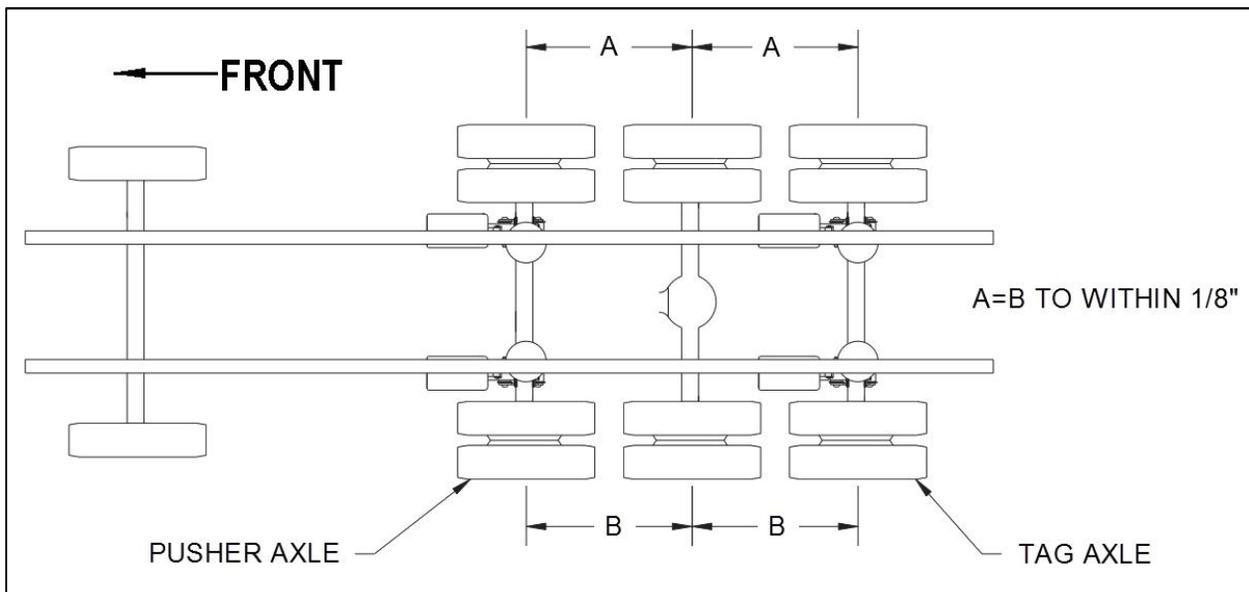

Figure 15
11. Adjust the fore/aft position of the passenger side arm beam pivot so that the measurement from the drive axle spindle axis to the auxiliary axle spindle axis is equal on both sides of the vehicle plus or minus (+/-) 0.125" (1/8") (See Figure 15).
10. Using two (2) ½" break-over bars or ratchets, rotate the two (2) passenger side eccentric collars simultaneously to adjust the fore/aft position of the passenger side arm beam pivot so that the measurement from the drive axle spindle axis to the auxiliary axle spindle axis is equal on both sides of the vehicle plus or minus (+/-) 0.125" (1/8") (See **Figure 15**).